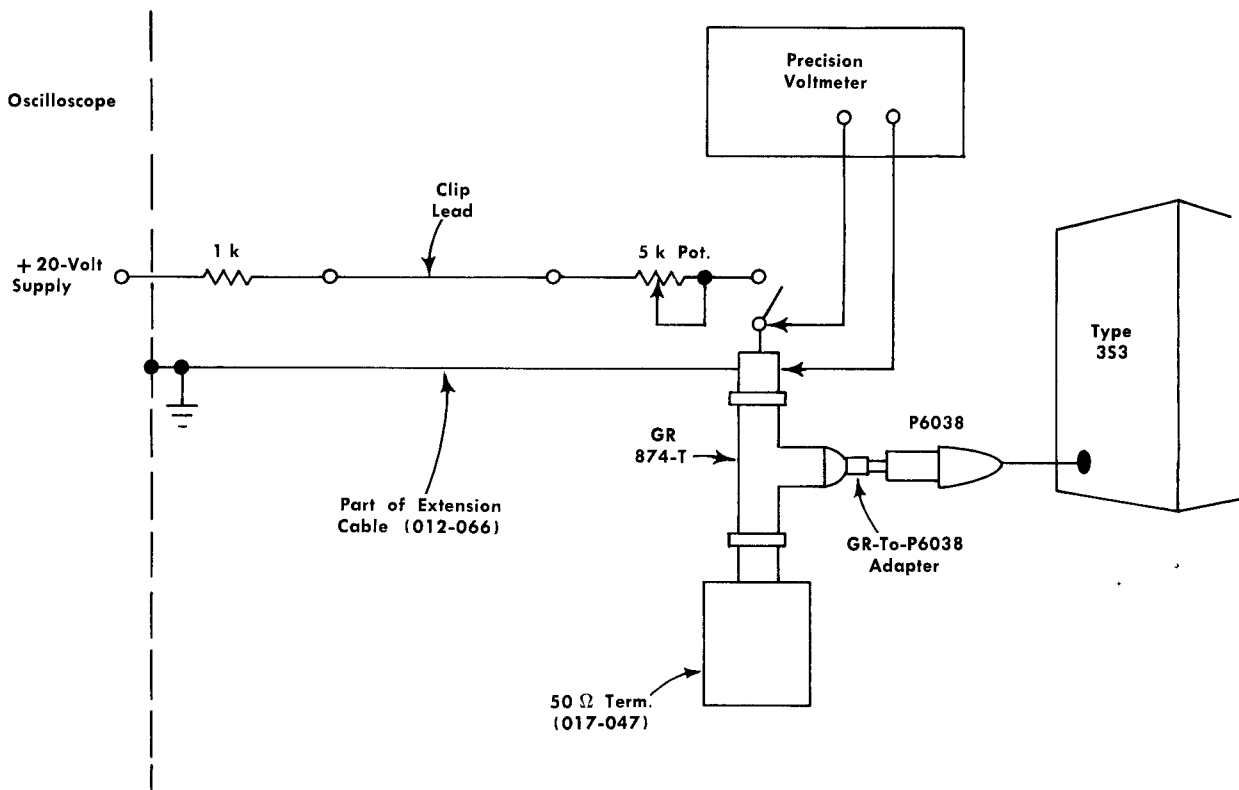

Fig. 5-5. Circuit used to set Type 353 dc gain.
- Connect the Channel A P6038 Probe to the system shown in Fig. 5-5. Leave the switch open.
- Connect the GR 874-T of Fig. 5-5 to the Type 113 Delay Cable end so that the signal generator can be used to operate the Type 353, and externally trigger the Type 3177 through the Type 110. The Type 110 trigger takeoff operates without the POWER switch ON. Remove the 2X attenuator in the line to the Type 113.